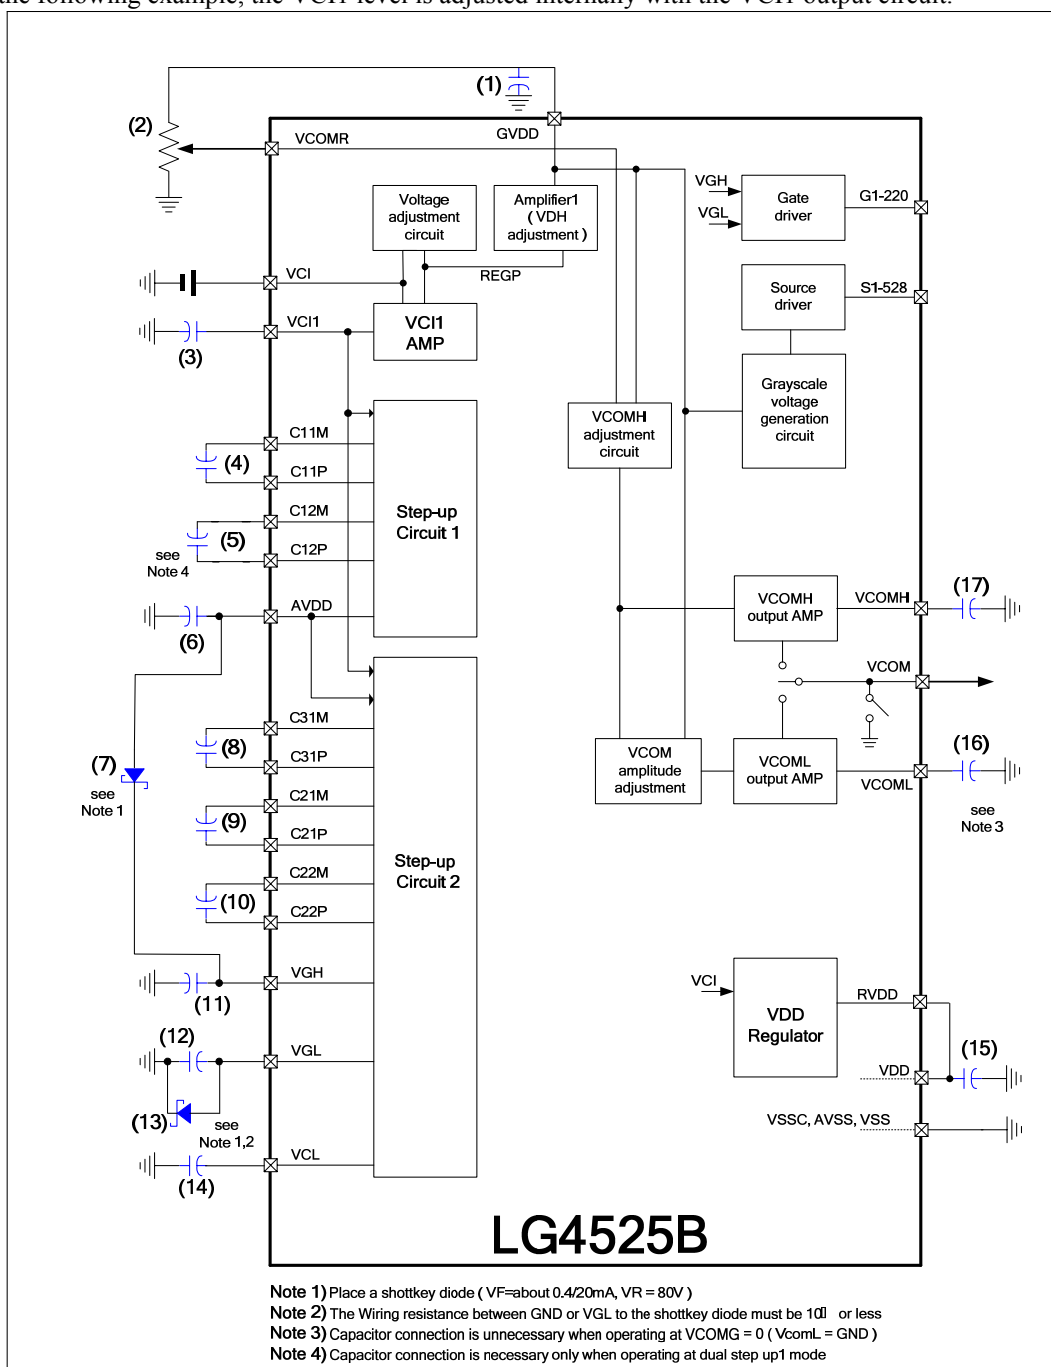
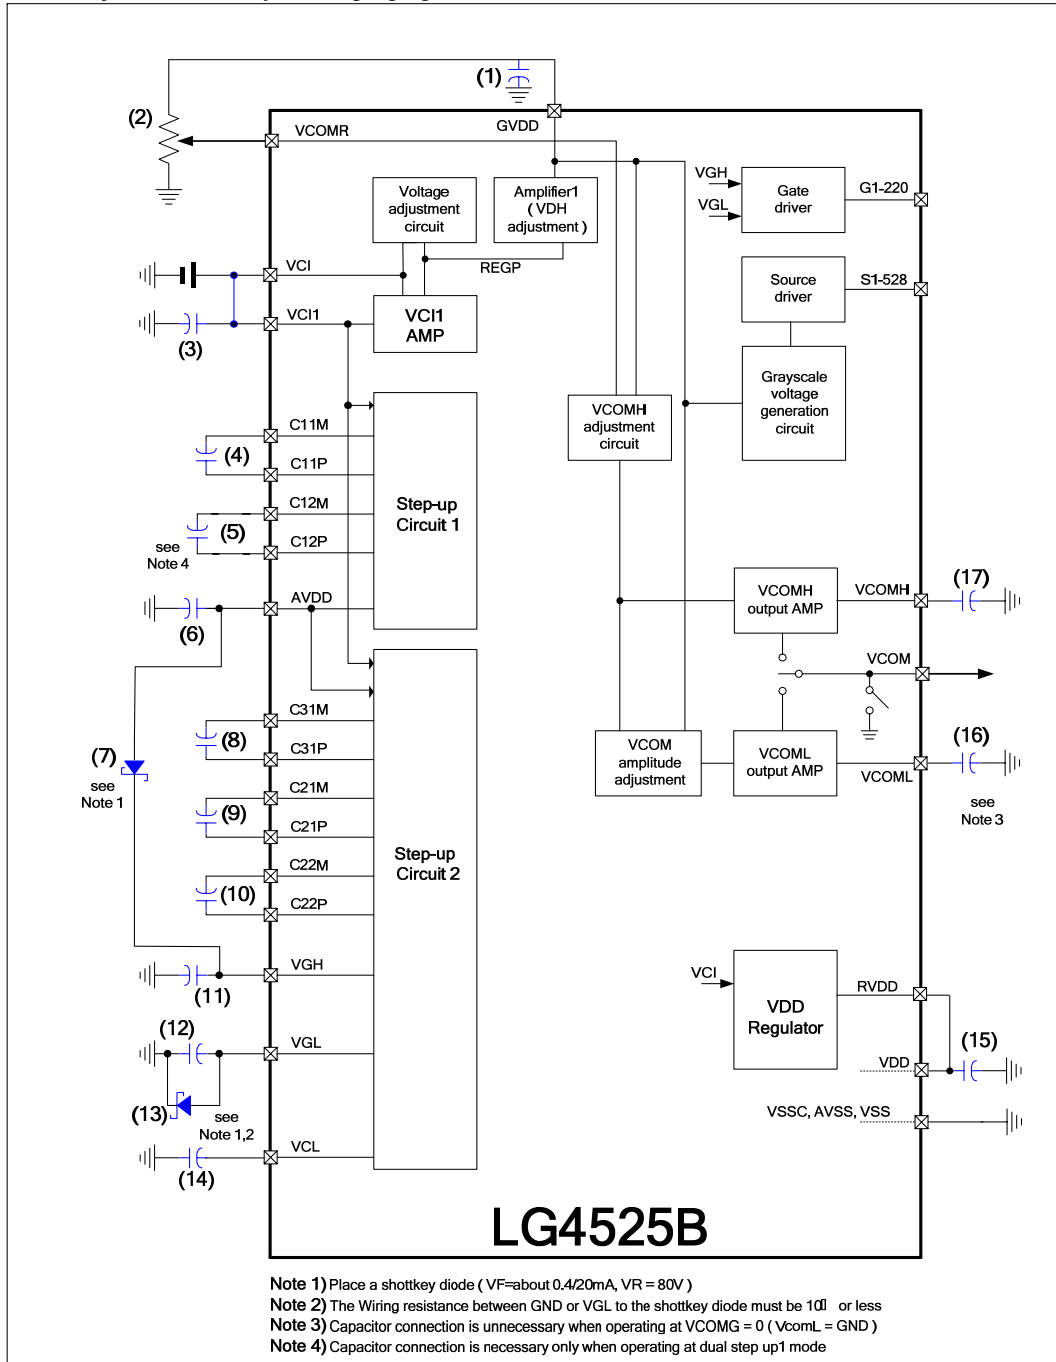

Figure 71
Figure 72
2. The numbers in the parentheses corresponds to the numbers of the elements in Figure 71, Figure 72 .